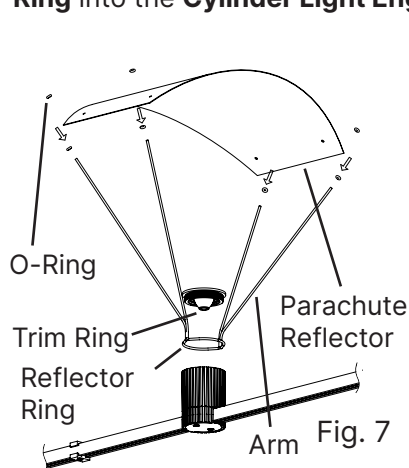

Fig. 7
1. Place a rubber **O-Ring** on each **Arm** on the **Parachute Reflector Rrim** (Fig. 7).
2. Bend the **Parachute Reflector** and pass each hole over an **Arm** (Fig. 7).
3. Place another O-Ring on each **Arm** and adjust the o-rings to set the desired reflector position (Fig. 7).